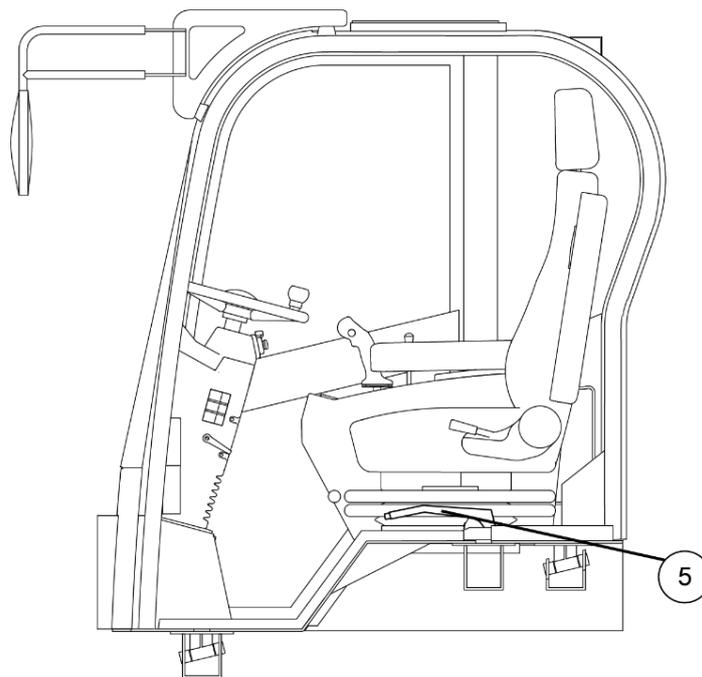

Figure 5-34 Cab
Step 3: Pull up the brake handle (5) to the braking position and release the brake pedal (2), as shown in Figure 5-34;